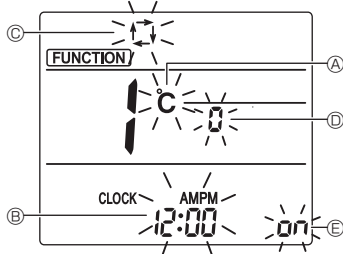

Fig. 4-11
3. Check that function No. "1" is displayed, and then press the **SET** button ③.
- The Screen display setting screen will be displayed. (Fig. 4-11)
- Press the **UP** button ④ to change the function No.
4.12.2. Changing the temperature unit (Fig. 4-11 Ⓐ)
- Press the **TEMP** button ⑤.
- Each time the **TEMP** button ⑤ is pressed, the setting switches between **C** and **F**.
4.12.3. Changing the time display (Fig. 4-11 Ⓑ)
- Press the **TIME** button ⑥.
- Each time the **TIME** button ⑥ is pressed, the setting switches between **12:00** and **24:00**.
4.12.4. Changing the AUTO mode (Fig. 4-11 Ⓒ)
- Press the **MODE** button ⑦.
- Each time the **MODE** button ⑦ is pressed, the setting switches between **Ⓐ** and **Ⓑ**.
4.12.5. Changing the pair No. (Fig. 4-11 Ⓓ)
- Press the **UP** button ④.
- Each time the **UP** button ④ is pressed, the pair No. 0-3 changes.